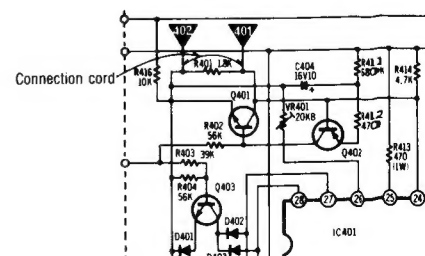

Fig. 17
2. Connect a wire between TP401 and TP402 terminal (See fig. 17).
2. Connect a wire between TP401 and TP402 (See fig. 17).